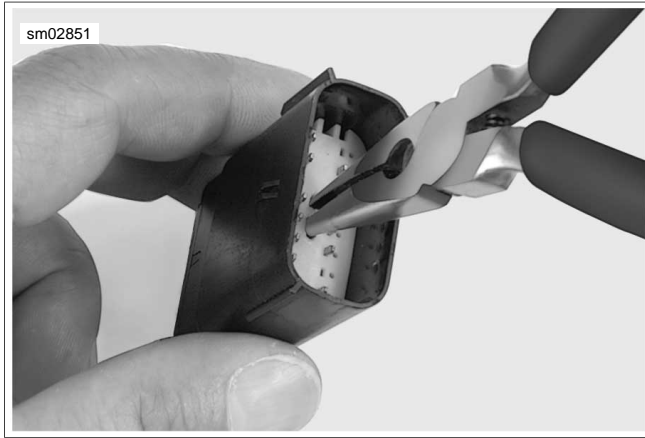

Figure A-24. Pull Up Secondary Lock (Pin Housing)
- b. **Pin Housing:** See Figure A-24. Use needle nose pliers to engage the D-holes in the center of the secondary lock.